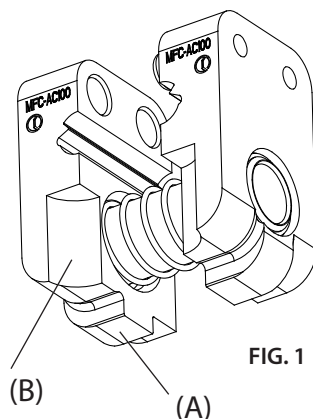

FIG. 1
- Press the pressure release lever (33) for the rapid retraction of the ram (13).
- By releasing the locking handle (49) the dies open and release the wire/conductor.
2.5) Inserting the die set (Ref. to Figs. 1, 2)
- Remove the locking pin (16) and insert the die set into the top of the tool and position the 'locator' (A) in the guide at the bottom of the head. Ensure that the recess (B) on the front of the die set faces the blade (15).
- Fully insert the locking pin (16) into the head.